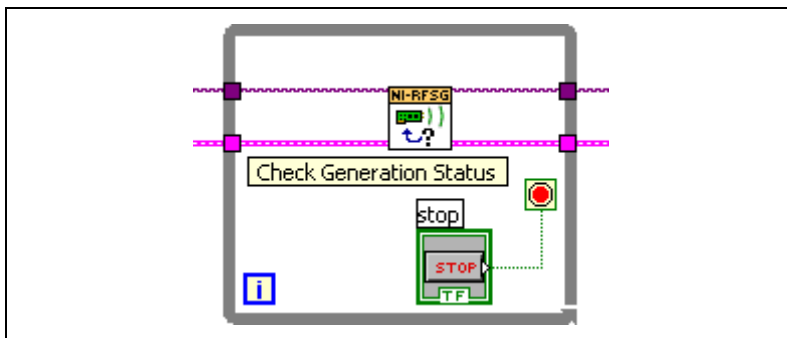

Figure 1-31. While Loop with STOP Button
17. Right-click the **Loop Condition** terminal and select **Create Control** from the shortcut menu to create a STOP button on the VI front panel. The resulting portion of the block diagram is shown in Figure 1-31.